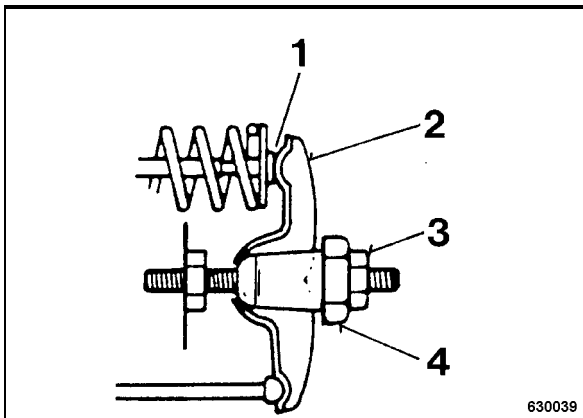

Fig. 47
- Hold hexagon nut 4 (Fig. 47) on the rocker arm and loosen counter nut (3).
- Adjust hexagon nut (4) on the rocker arm so that the feeler gauge fits between rocker arm and valve shaft with noticeable resistance after retightening counter nut (3).